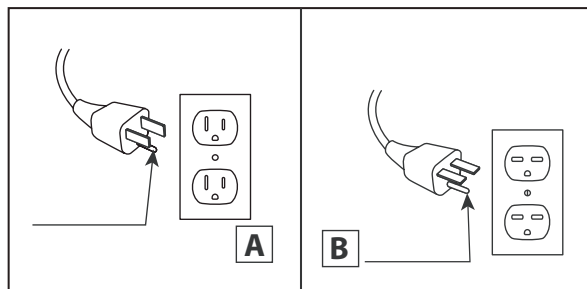

Fig.1
1. Align the 2 mounting tabs into the bracket (Fig 1)
17. Connect to properly grounded outlets only, See Fig.1. This heater is for use on 120 volts. Do not use a 2 prong adapters. Always plug heaters directly into a wall outlet/receptacle. Never use with an extension cord or relocatable power tap (outlet/power strip).